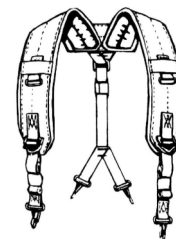

Fig. 8-13 Individual Equipment Belt Suspenders
**Individual Equipment Belt Suspenders.** The suspenders (Figure 8-13) support the individual equipment belt when the appropriate components are attached to the belt. Web band metal loops are provided on each suspender strap for attachment of small items such as the first aid/compass case or a flashlight.